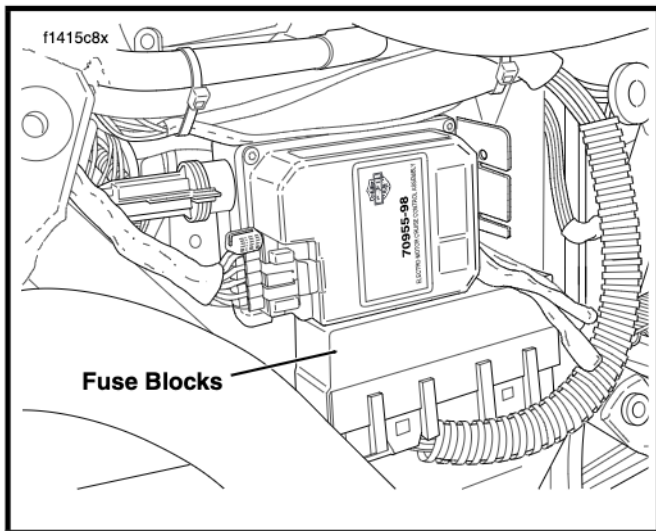

Figure 49. Left Side Cover Removed - FLHTCU
3. Gently pull side cover from frame downtubes (no tools required). Radio fuses are located in the fuse block, CB/ Intercom fuses are in the fuse box. See Figure 49.